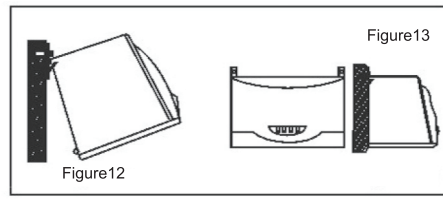

Figure12
- (4) Fit the organism into claddings(shown in figure12)